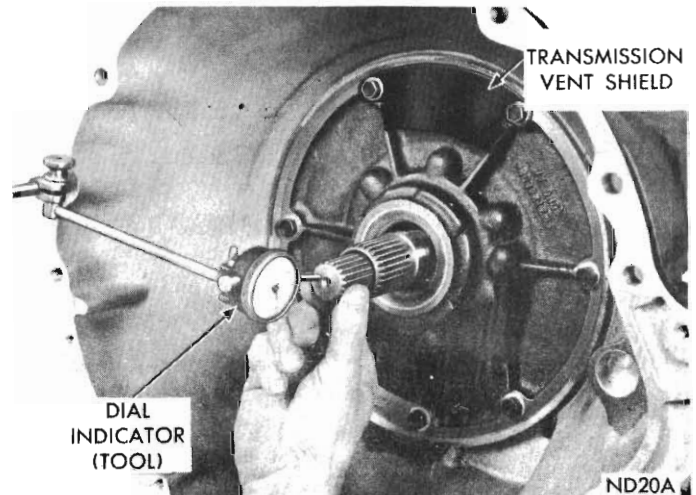

Fig. 48 - Measuring drive train end play
(1) Attach a dial indicator to transmission bell housing with its plunger seated against end of input shaft (Fig. 48).